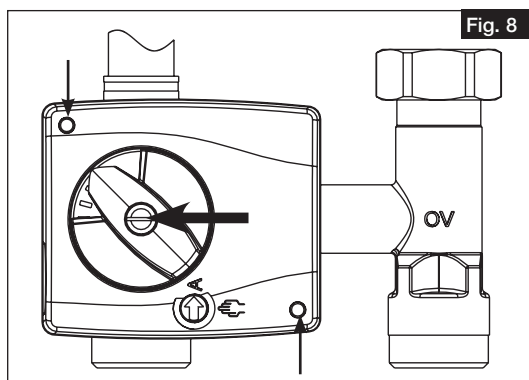

Fig. 8
1. Loosen screws and open cover (Fig.8)